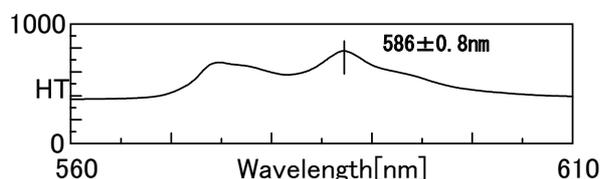

Fig. 4.9 HT data of neodymium glass
- (3) Mount neodymium glass in the sample chamber.
- (4) Select the [Start] command from the [Measurement] menu in order to perform measurement.
- (5) Using the spectrum analysis program, verify that the peak wavelength of Channel 2 (Fig. 4.9) of the measurement data is  $586 \pm 0.8$  nm. If the peak wavelength does not fall within this range, adjust the instrument according to the following procedure.